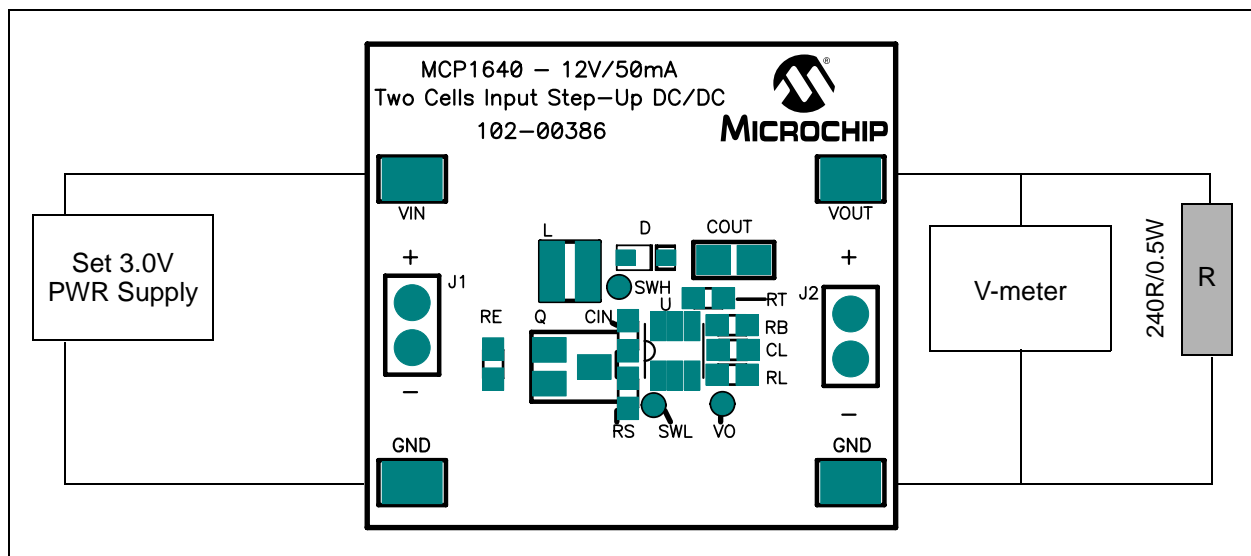

FIGURE 2-3: MCP1640 12V/50 mA Two Cells Input Boost Converter Reference Design Setup Circuit.
3. Connect a voltmeter and a $240\Omega/0.5W$ resistor between V_{OUT} and GND connectors, as shown in Figure 2-3.